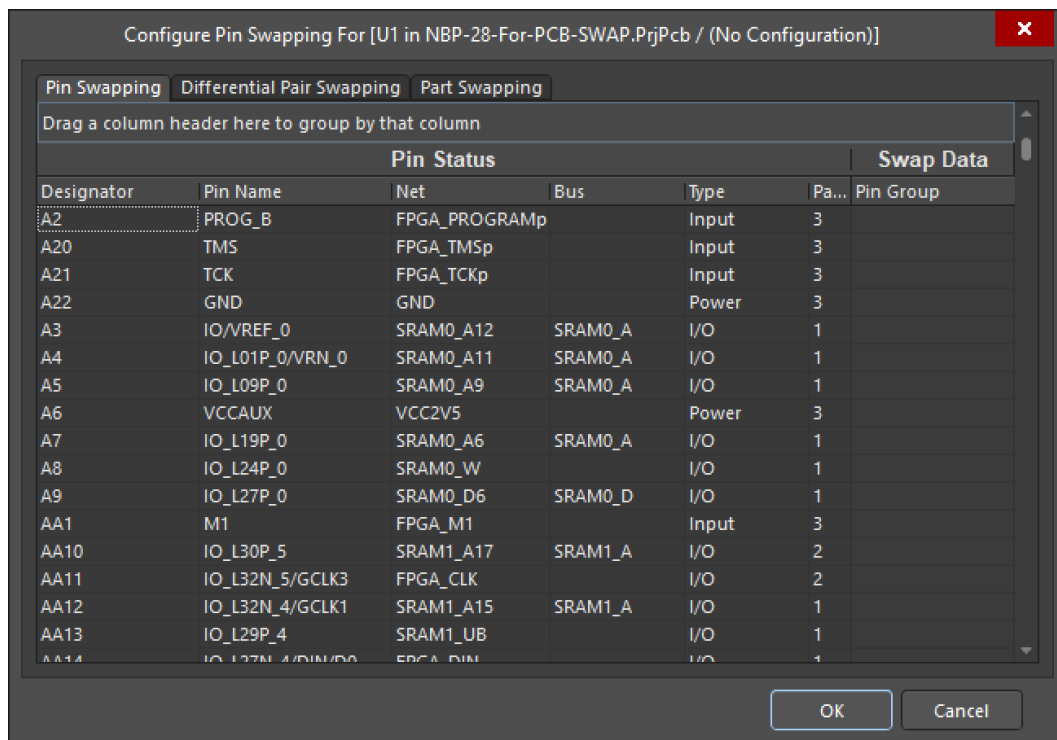

Figure 5. Pin Swapping Configuration
- The *Configure Pin Swapping* information for U1 appears as shown in Figure 5. Be sure to select the *Pin Swapping* tab located in the upper left corner.